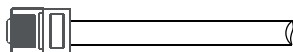

Figure 4.8-3 Remotely close the cable connection
**Step 3-2** For Remote Shutdown. Run the cable through the steel plate , Then wire from pins 5 and 6. Table 4.5-1 describes the 6-pin port definition,Wiring is shown in Figure 4.8-3